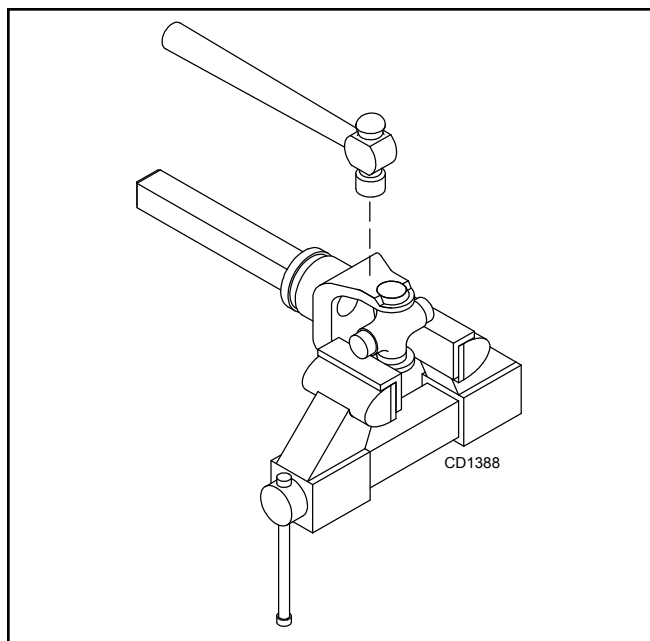

Figure 21.
4. Place universal cross in vise as shown in Figure 21 and tap on yoke to remove cup. Repeat Step 3 for final removal. Drive remaining cup out with a drift and hammer.